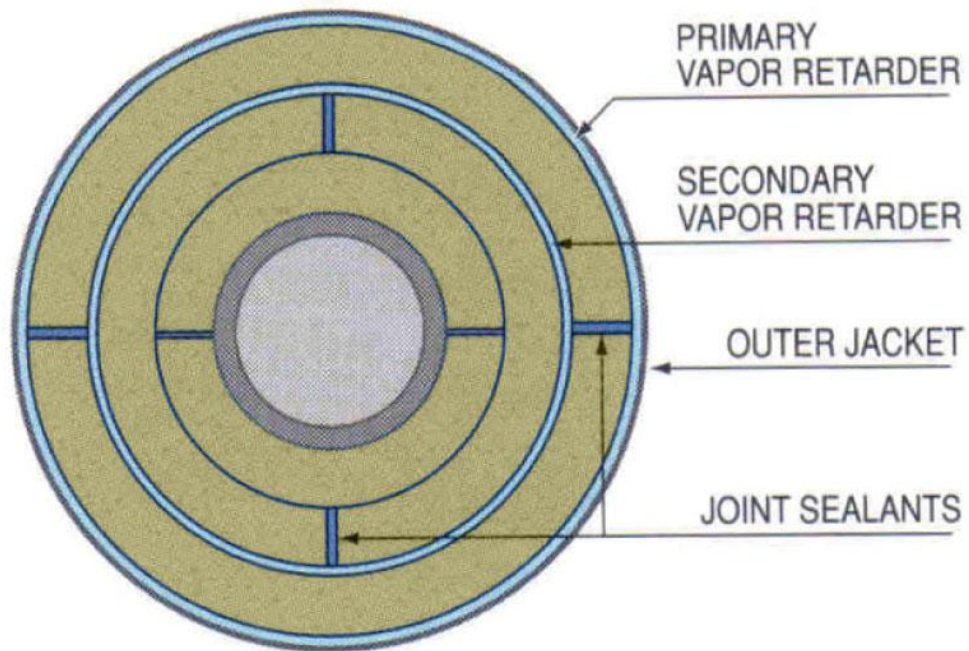

**Figure 1**
- 4.1.3 Where insulation thickness required is less than 5", utilize a double layer system. Stagger all longitudinal joints between the inner and outer layers. Install the inner and outer layer longitudinal joints 90° to each other with the inner layer joints in the 12 and 6 o'clock positions and the outer layer joints in the 3 and 9 o'clock positions. All butt joints between the inner and outer layers shall be staggered between 6 and 18 inches. Refer to Figure 1 in Appendix B.
- 4.1.8 In double layer insulation system, inner layer shall not be installed with sealants. In double layer systems, the inner and outer layer shall remain independent of each other to allow movement between the layers. Refer to Figure 1 in appendix B.